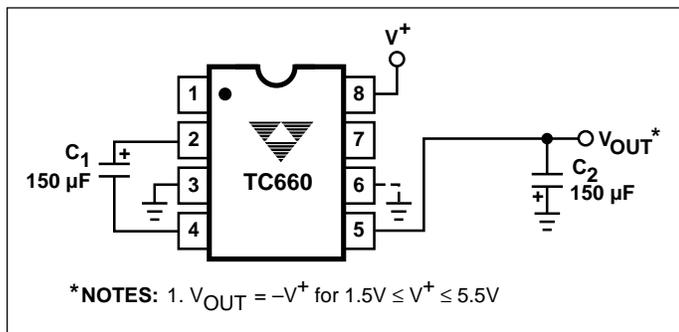
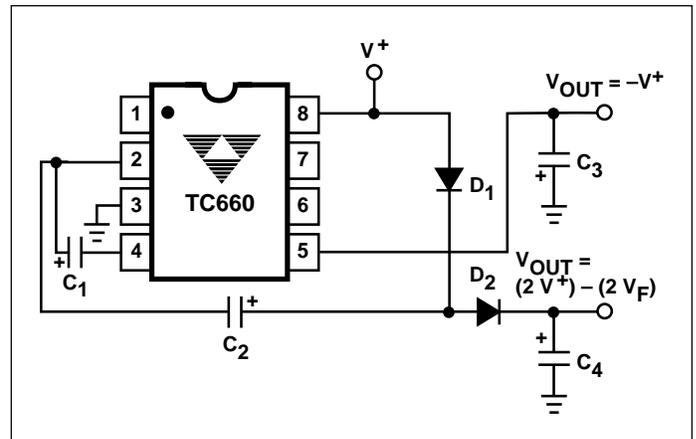

Figure 3. Simple Negative Converter
Figure 10. Combined Negative Converter and Positive Multiplier
Figure 3 shows typical connections to provide a negative supply where a positive supply is available. A similar scheme may be employed for supply voltages anywhere in the operating range of +1.5V to +5.5V, keeping in mind that pin 6 (LV) is tied to the supply negative (GND) only for supply voltages below 3.0V.
The output characteristics of the circuit in Figure 3 are those of a nearly ideal voltage source in series with 6.5Ω . Thus, for a load current of $-100mA$ and a supply voltage of +5V, the output voltage would be $-4.35V$.
Figure 10 combines the functions shown in Figures 3 and 8 to provide negative voltage conversion and positive voltage multiplication simultaneously. In this instance, capacitors C_1 and C_3 perform the pump and reservoir functions, respectively, for the generation of the negative voltage, while capacitors C_2 and C_4 are pump and reservoir, respectively, for the multiplied positive voltage. There is a penalty in this configuration in that the source impedances of the generated supplies will be somewhat higher due to the finite impedance of the common charge pump driver at pin 2 of the device.